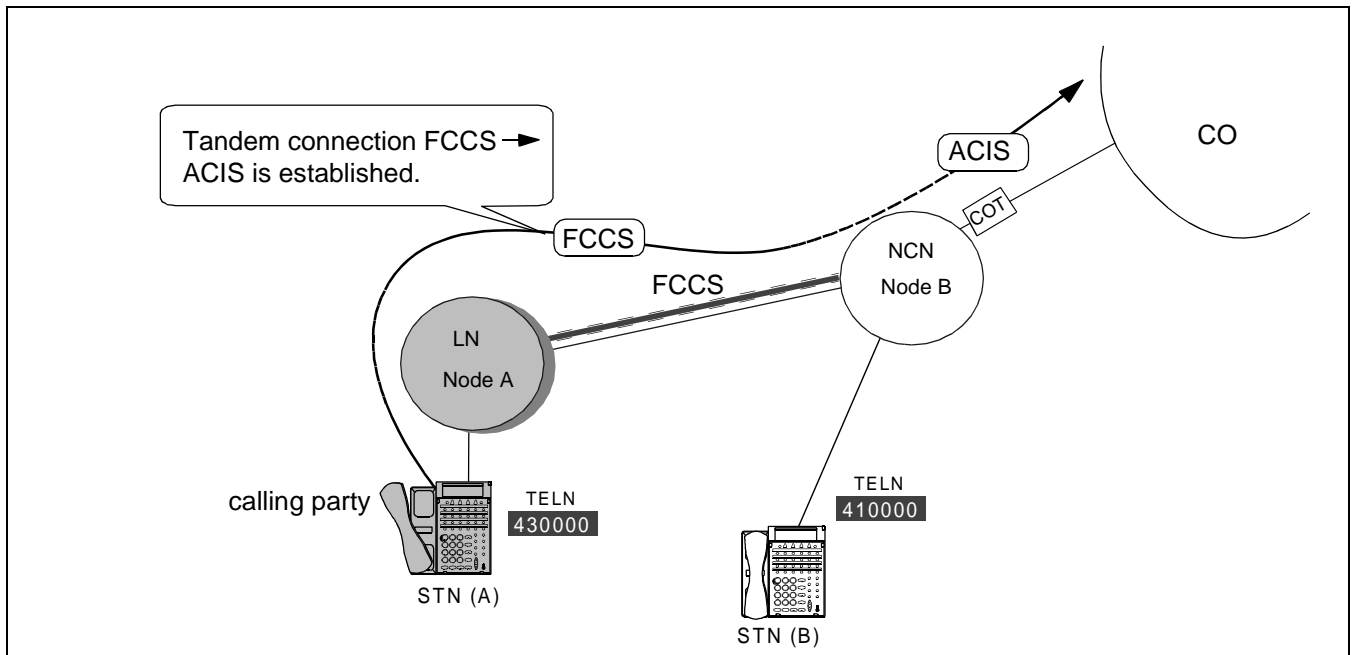

Figure 2-11 Tandem Connections via Fusion Link
Tandem connections via FCCS-ACIS can be established. In Figure 2-11, STN (A) can place a tandem call via FCCS-ACIS.